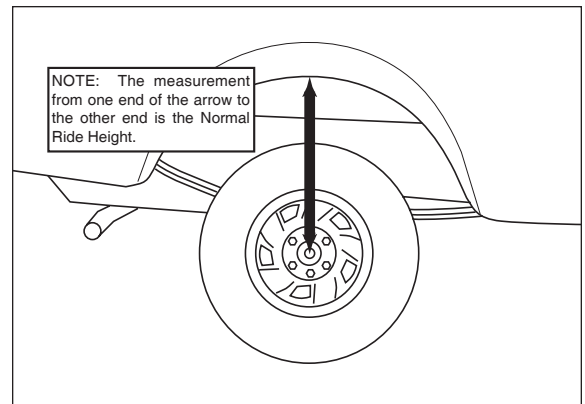

Figure 3
2. Measure the distance between the center of the hub and the bottom edge of the wheel well (Figure 3). This is the Normal Ride Height. Enter the measurement below: